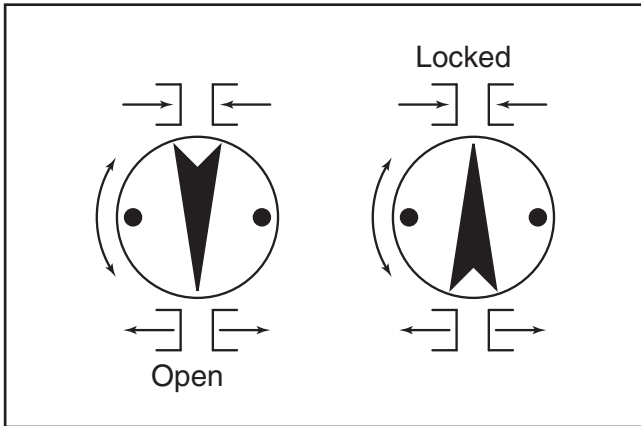

Figure 57. Power feed lock knob on the gearbox.
2. Rotate the feed lock knob on the gearbox counterclockwise to the open position, as shown in **Figure 57**. This will disengage the feed rod and longitudinal leadscrew so the gears can be changed.